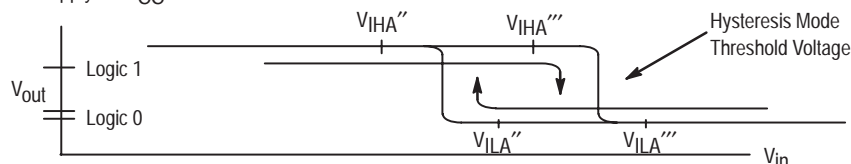

Figure 1. Hysteresis Mode Threshold Voltage
2. Output latched to logic high state prior to test. V_{IHA}' , V_{ILA}' are standard logic 1 and logic 0 MTTL threshold voltages. V_{IHA}'' , V_{ILA}'' , V_{IHA}''' and V_{ILA}''' are logic 1 and logic 0 threshold voltages in the hysteresis mode as shown in Figure 1 on page 3-63.
- Output latched to logic high state prior to test. V_{IHA'}, V_{ILA'} are standard logic 1 and logic 0 MTTL threshold voltages. V_{IHA''}, V_{ILA''}, V_{IHA'''} and V_{ILA'''} are logic 1 and logic 0 threshold voltages in the hysteresis mode as shown in Figure 1 on page 3-63.